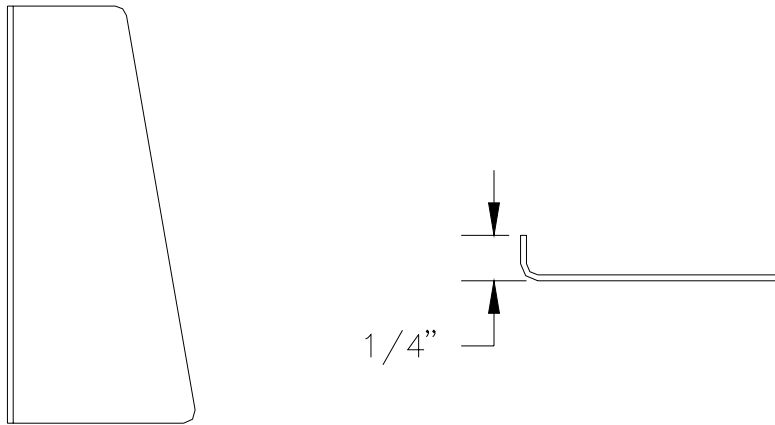

Figure 20.8.2
- 2) Brake a 90° bend into each part to add strength. Figure 20.8.2.